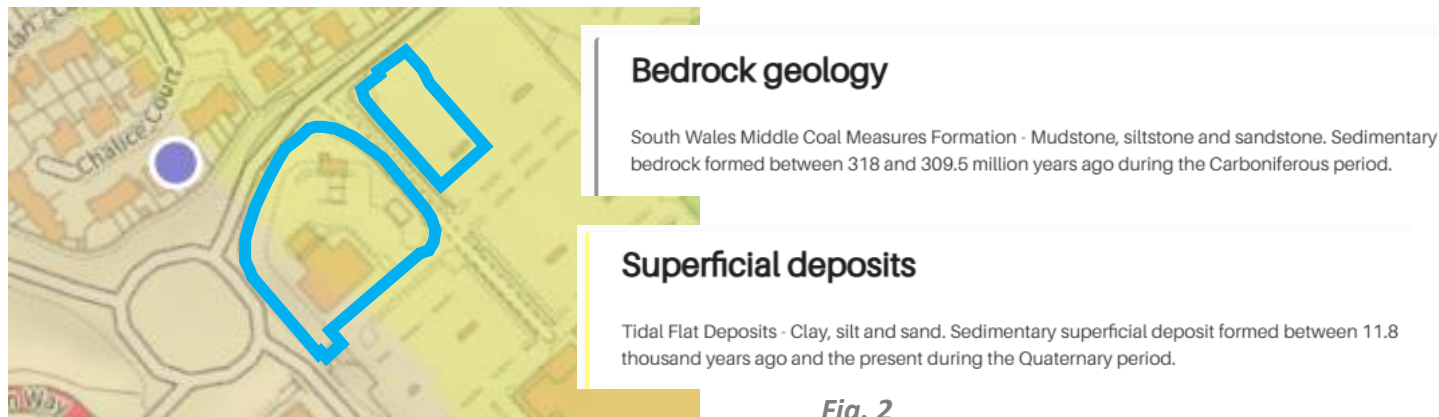

Fig. 2
3.2 An extract of the drift map is shown below, Fig. 2.